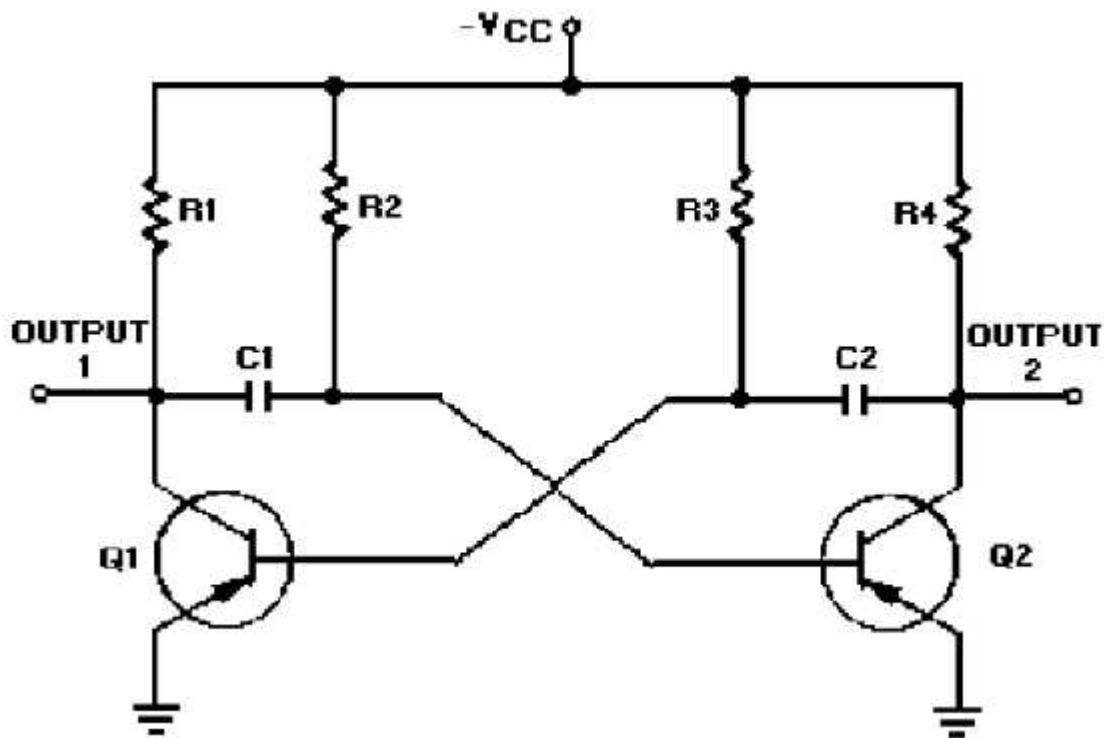
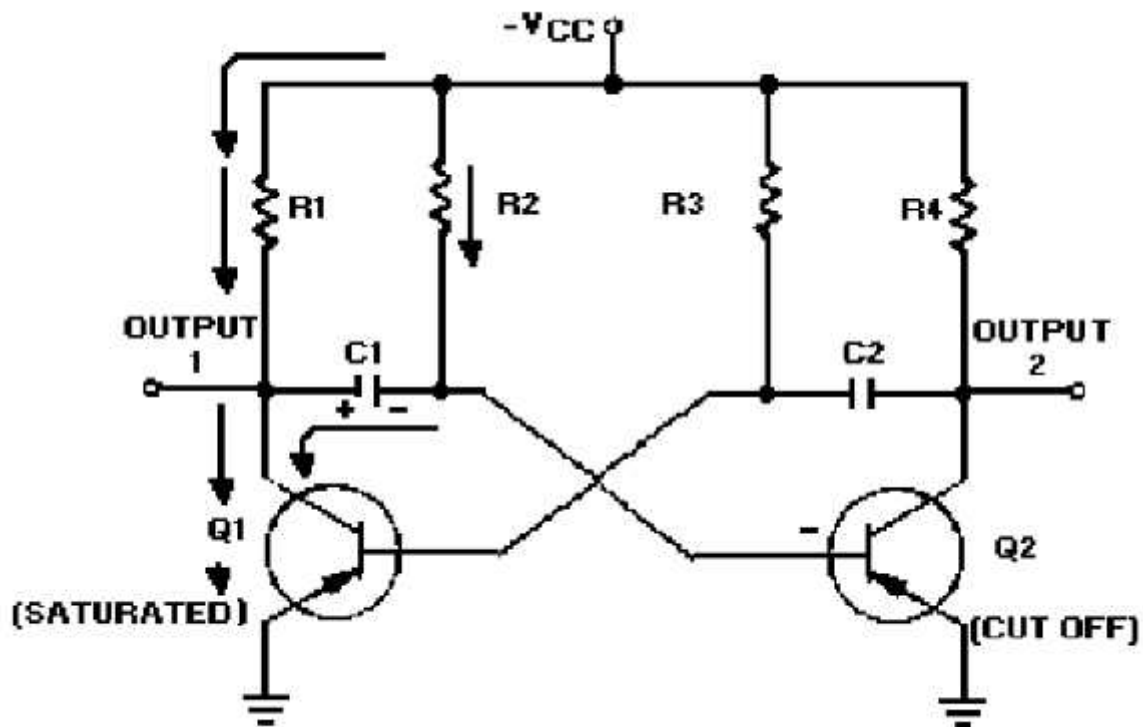
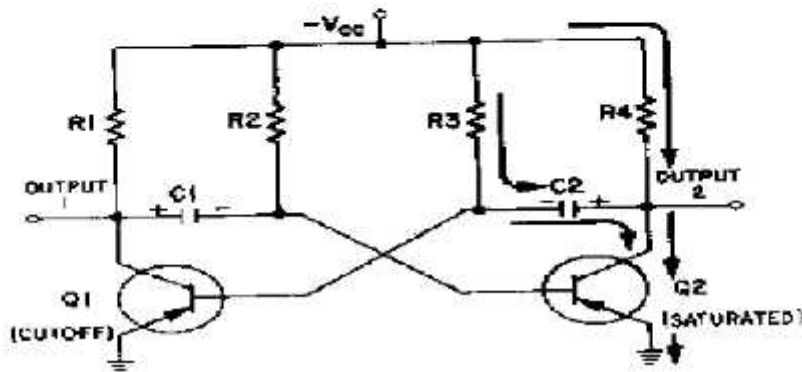

Figure 3-3.—Astable Multivibrator.
Figure 3-4.—Astable multivibrator (Q1 saturated).
Figure 3-6.—Astable multivibrator. (Q2 saturated).
- Let's look at the multivibrator in figure 3-3 again. This is an astable multivibrator. The astable multivibrator is said to oscillate. To understand why the astable multivibrator oscillates, assume that transistor Q1 saturates and transistor Q2 cuts off when the circuit is energized. This situation is shown in figure 3-4. We assume Q1 saturates and Q2 is in cutoff because the circuit is symmetrical; that is, $R1 = R4$, $R2 = R3$, $C1 = C2$, and $Q1 = Q2$. It is impossible to tell which transistor will actually conduct when the circuit is energized. For this reason, either of the transistors may be assumed to conduct for circuit analysis purposes.
- Notice that figure 3-6 is the mirror image of figure 3-4. In figure 3-6 the left side of capacitor C2 becomes more negative at a rate determined by the time constant $R3C2$. As the left side of C2 becomes more negative, the base of Q1 also becomes more negative.